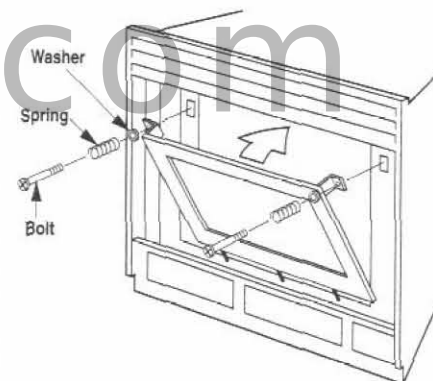

Figure 24
Position the panel at the front opening with the corner flanges at the top, extending toward the appliance. Carefully insert the panel into the lower cavity, aligning the three (3) pins on bottom of door with corresponding holes in the bottom surface. Tilt top toward appliance, inserting formed flanges into the rectangular openings at each side of combustion chamber opening. Assemble the spring and washer over bolt. Insert and fasten to nut plate at the rear of the opening (Figure 24). Start the bolt by hand, then tighten each bolt until bottomed out for uniform pressure on the panel seal. The bottom of the bolt head should be 2-1/2" (64 mm) from the door flange.